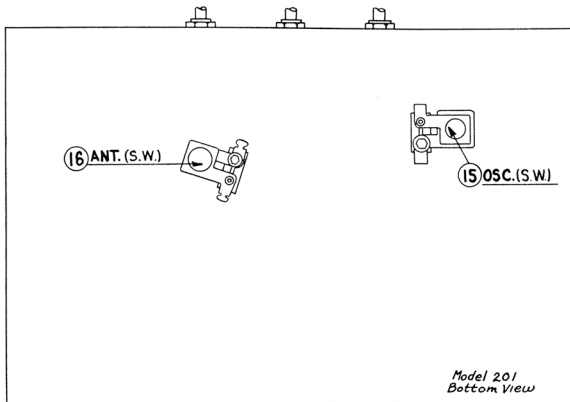

Fig. 30
oscillator padder (15) and the antenna padder (16) for maximum output. These padders are located and adjusted from underneath the chassis and are visible in Fig. 30. When adjusting padder (15) two very definite peaks will be found. It is extremely important that the lower capacity setting be used. To make certain that the adjustment has not been made to the image frequency (which would be the case if padder (15) were adjusted to the higher capacity setting) turn the receiver dial to approximately 10.3 M.C. at which point the image frequency should be heard, but much more weakly than the signal at 10.8 M.C.